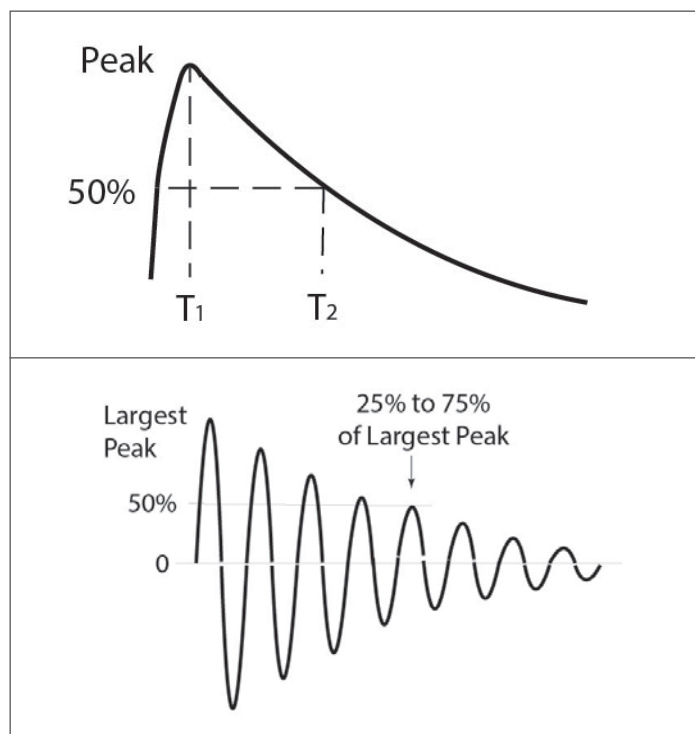

Figure 1: Double Exponential (top) and Damped Sine (bottom) Waveforms
Waveforms associated with CS117 are classified as double exponential or damped sine wave where the waveform generator provides control of the rise and decay times of various waveforms. Figure 1 provides a generic waveform shape. The double exponential waveform on the left has an amplitude in current (I) terms or in voltage (V) terms. T_1 denote the rise time and T_2 denotes the decay time to 50% of the peak. The rise and decay times vary